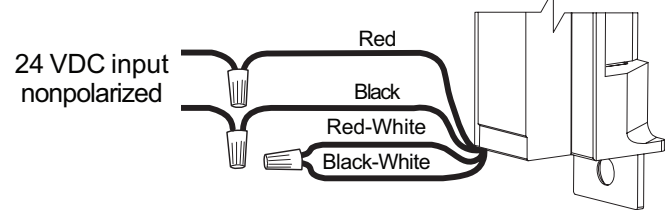

**Figure 4**
6. When using 12 VAC or 24 VAC power, install SO kit to convert AC power to DC (Figure 4).